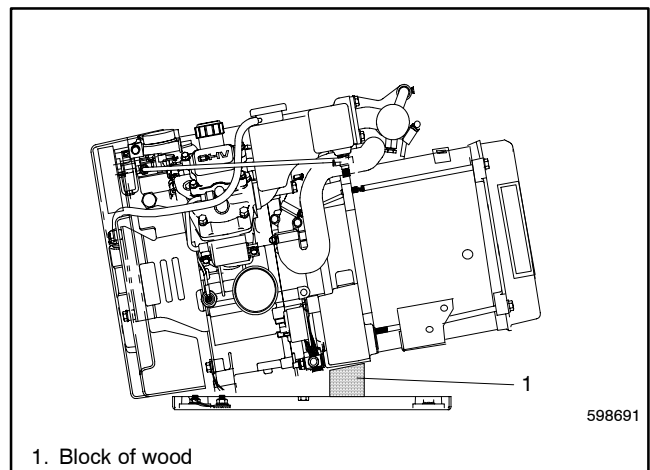

Figure 9-2 Raising the Generator
17. Tilt the generator set up and brace it with a block of wood. Figure 9-2.